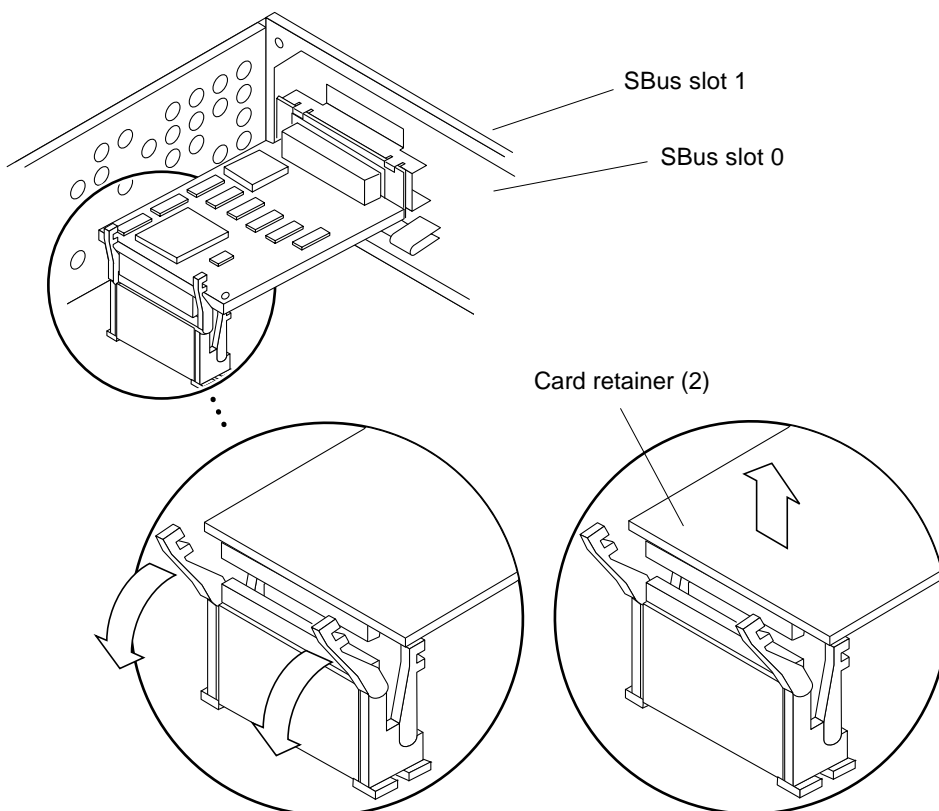

FIGURE 10-13 Removing an SBus Card from Slot 0 or 1
5. Unlock the card retainers at the back edge of the SBus card by pushing the card retainers back from the edge of the SBus card (FIGURE 10-13).